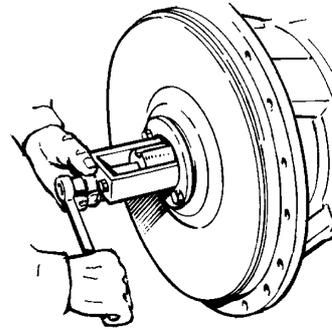

Fig. 6
5. Press home the cartridge using a special mounting yoke (not the same for 5R and 5F) and impeller screws, see Fig. 6. It may be necessary to restrain the pump shaft to prevent it rotating.
3. Use a pen and mark the line of the locking washer recess to aid alignment with the screw hole in the casing cover. Push the cartridge by hand into the casing cover, until it is stopped by the O-rings. Press home the cartridge using the mounting yoke and impeller screws, see Fig. 6. It may be necessary to restrain the pump shaft to prevent it rotating.
3. Use a pen and mark the line of the locking washer recess to aid alignment with the screw hole in the casing cover. Push the cartridge by hand into the casing cover, until it is stopped by the O-rings. Press home the cartridge using a special mounting yoke and impeller screws, see Fig. 6. It may be necessary to restrain the pump shaft to prevent it rotating.